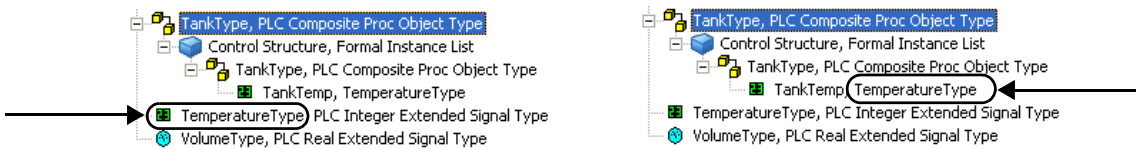

Figure 10. Signal Type (Left), and Reference (Right)
20. The last part of the instance name shows the type as shown in Figure 10.